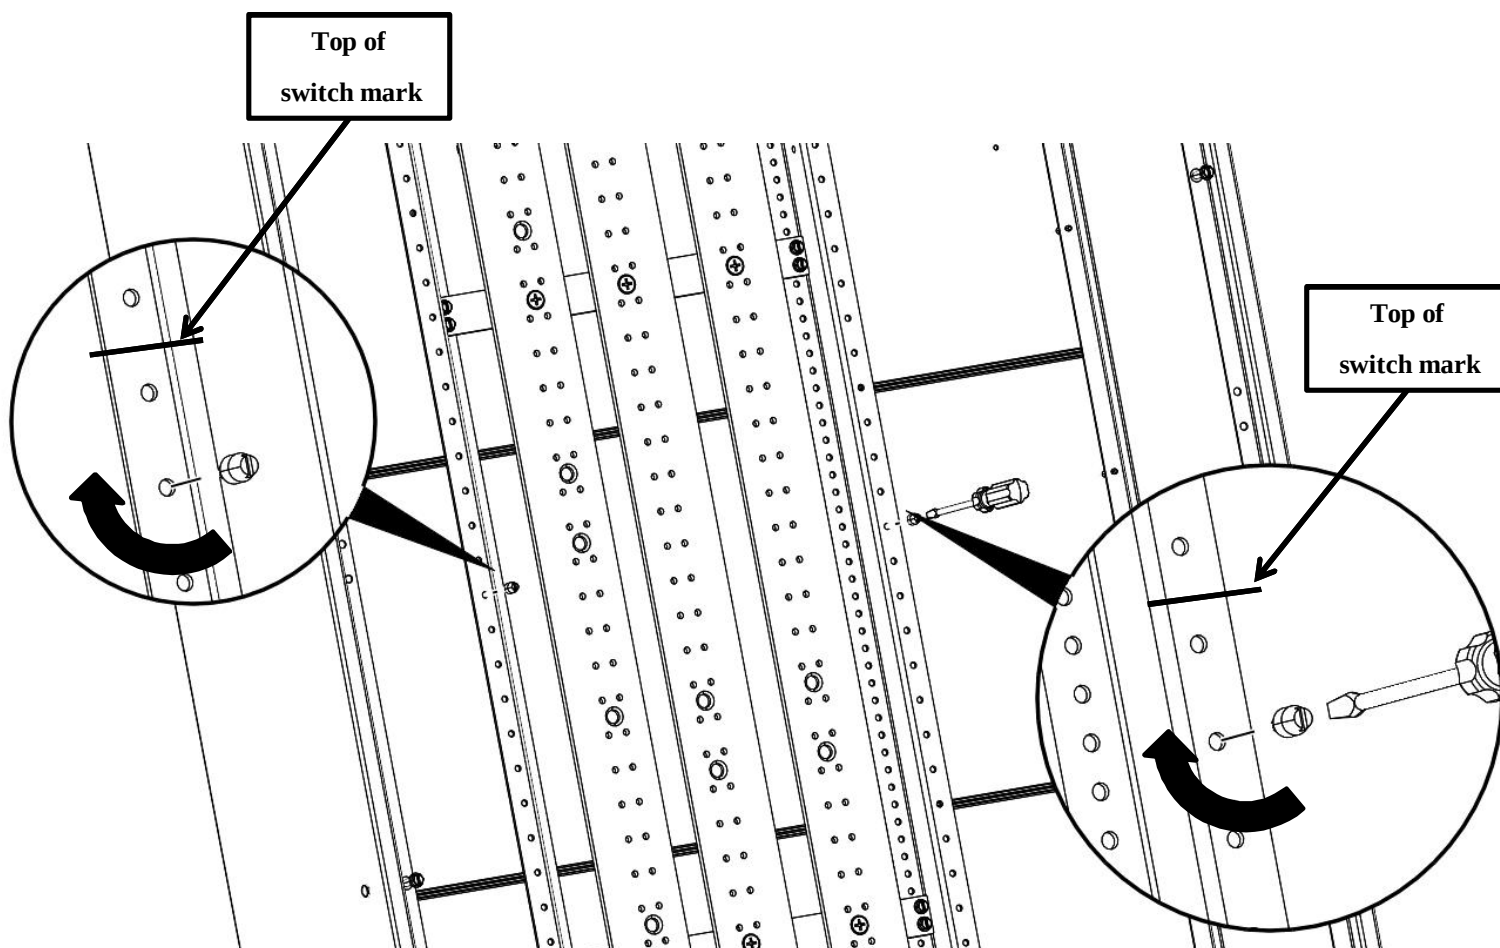

Figure 8
8. Install 2 alignment pins into the holes 1.88" below the top of the switch mark (second hole down). Hand tighten until pin is fully seated see Fig. 8.